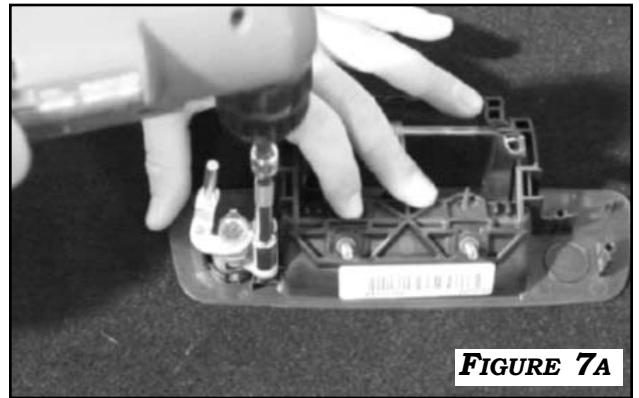

FIGURE 7A
7. REMOVE BOLTS FROM LOCK CYLINDER ON EXISTING HANDLE AND APPLY TO REAR CAMERA ASSEMBLY **FIGURES 7A & 7B**